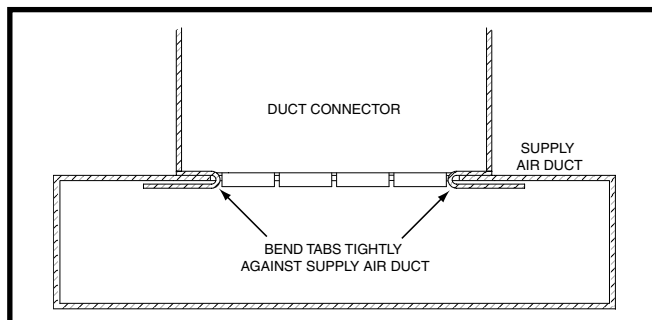

Figure 7. Duct Connector Tabs
8. Bend the connector tabs on the bottom of the plenum connector upwards and as tight as possible against the supply air duct. See Figure 7.